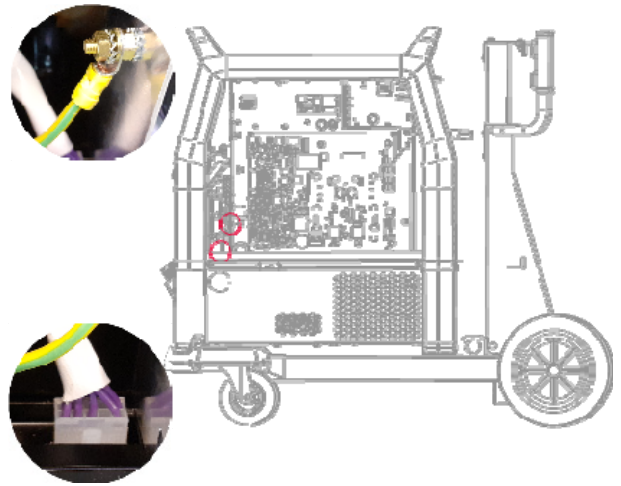

Figure 4
- Connect the 10-pin plug to the socket and screw the green – yellow protective wire to the grounding bolt – unscrew the M6 nut, remove the serrated washer, install the cable, put on the serrated washer and screw on the M6 nut.(Figure 4)